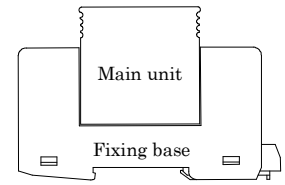

Fig.1 SPD main unit and fixing base
- ⑤ Do not expose the SPD to adverse environmental conditions such as rain, wind, steam, dust, and salty air.
- ⑥ Do not expose the SPD to acid, alkali, corrosion gas, solvent, oil, dust, and salt.
- ⑦ Handle the SPD carefully to prevent mechanical shock (e.g. drop) or vibration, as this may cause cracking of its plastic housing.
- b) When measuring an insulation resistance of the SPD or conducting voltage withstand test, disconnect the SPD main unit from the fixing base. (Ref: Fig.1)